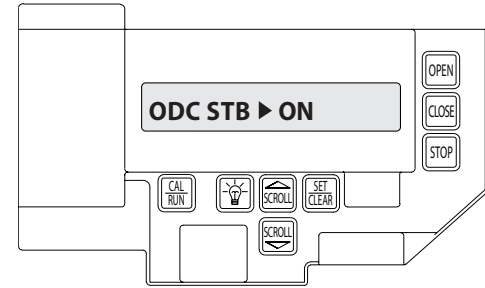

Figure 16
- 2) Press SCROLL  key (up or down) until display reads “ODC STB>ON” or “ODC STB>OFF” **Figure 16**.